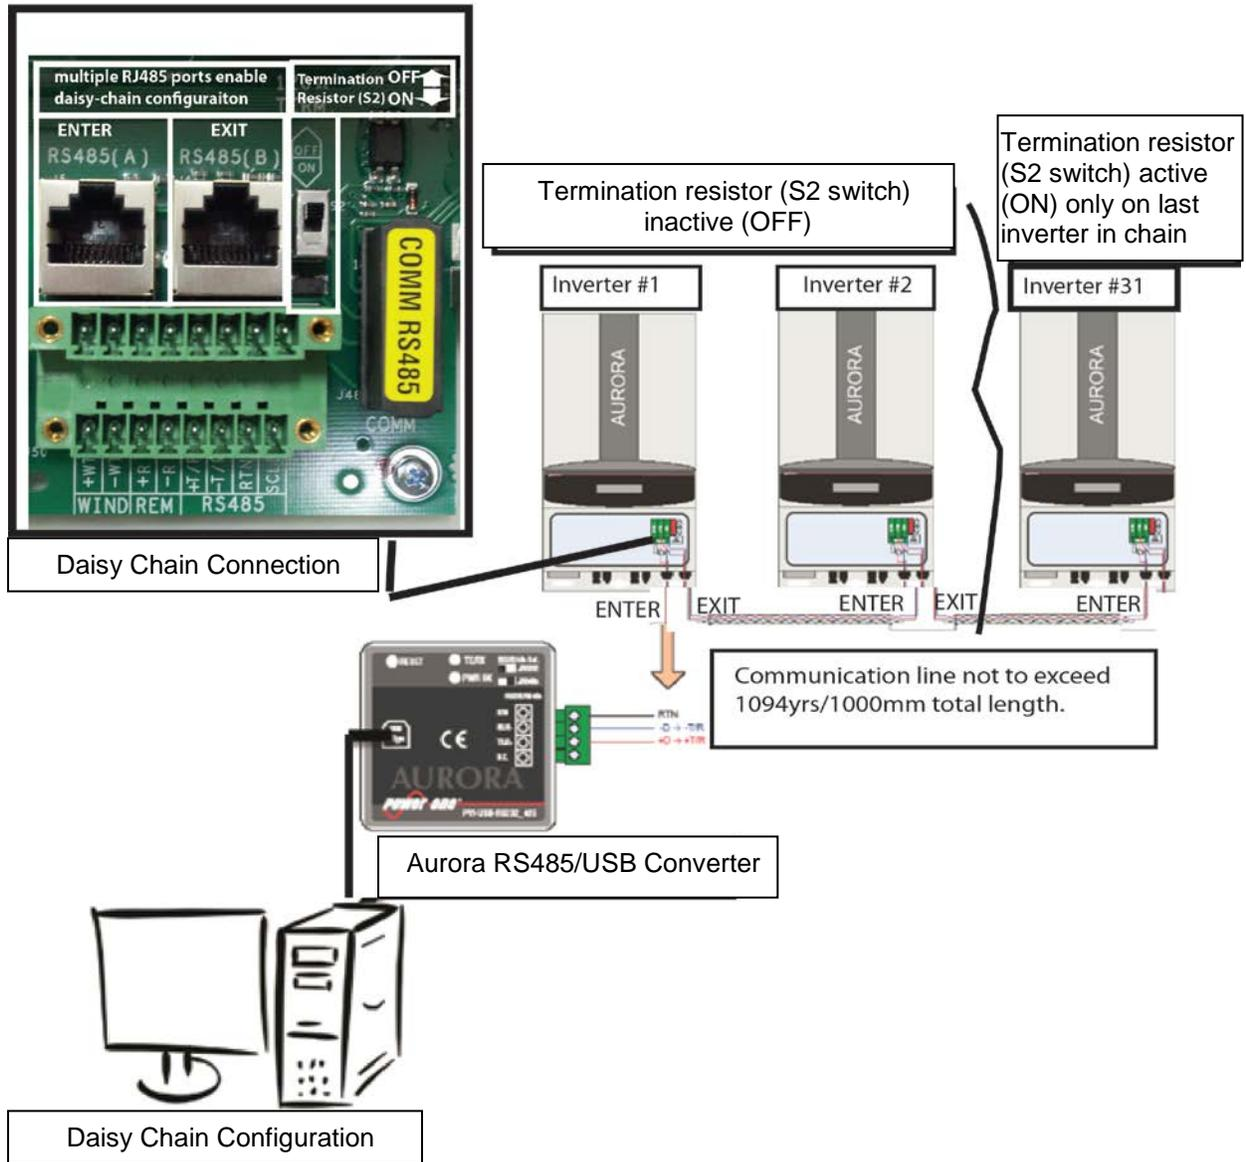

Figure 3.15 – Daisy Chain Connections and Configuration
STEP 1: Using the appropriate cable, connect all the AURORA Inverter units according to the “daisy-chain” cabling method ENTER- EXIT. Make sure to respect the correspondence between all the signals. See Figure 3.15.
STEP 2: Locate the S2 switch. See Figure 3.15. Push the switch **UP** into the **OFF** position for every inverter in the chain except for the last inverter. The last inverter needs to have the S2 switch pushed **DOWN** into the **ON** position.
The diagram in Figure 3.15 shows how to connect multiple units into a daisy-chain configuration.